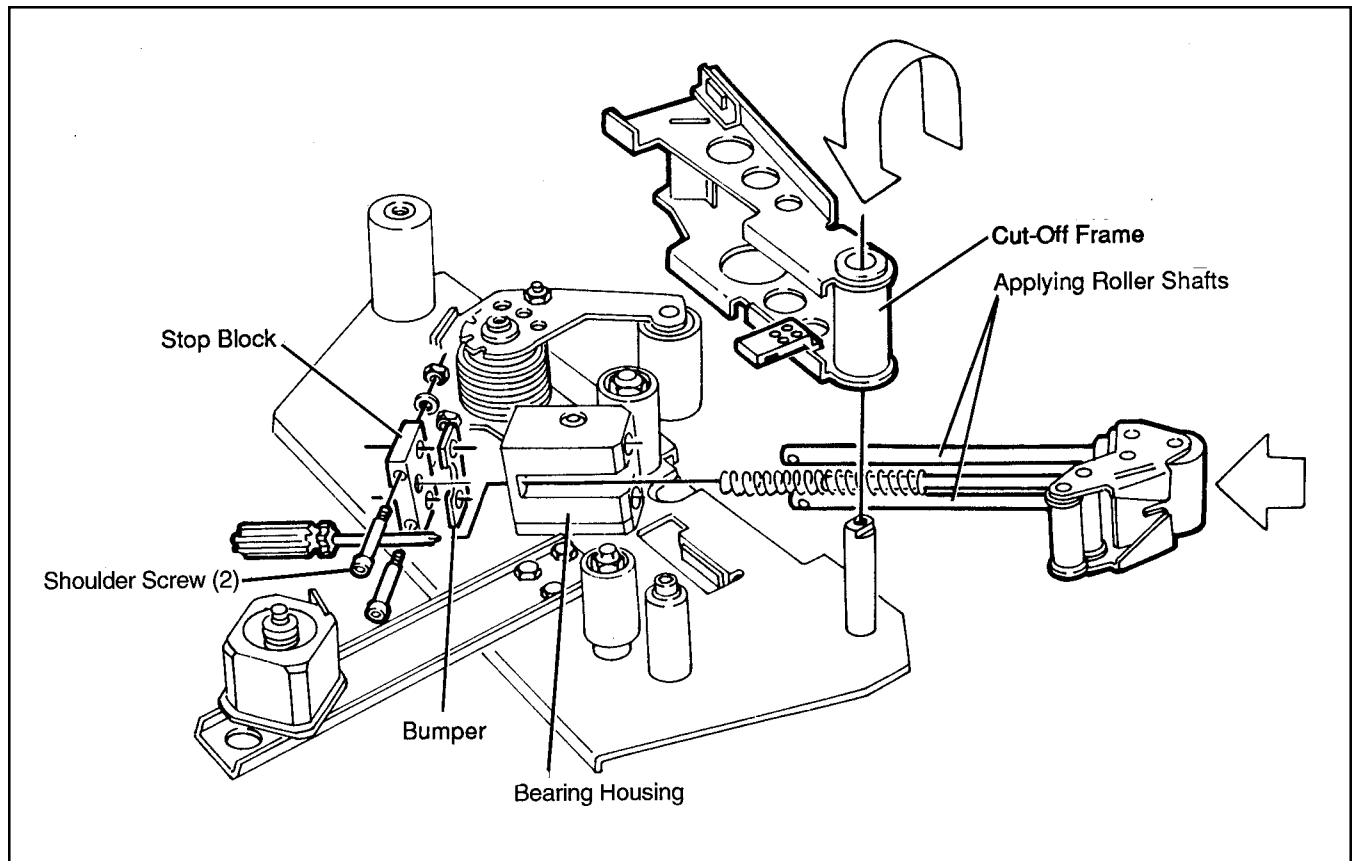

Figure 2-16
- Reinstall the cut-off frame into the taping head. Slide applying roller shafts into bearing block and assemble bumper, stop block, shoulder screws, washers and nuts. See Figure 2-16.